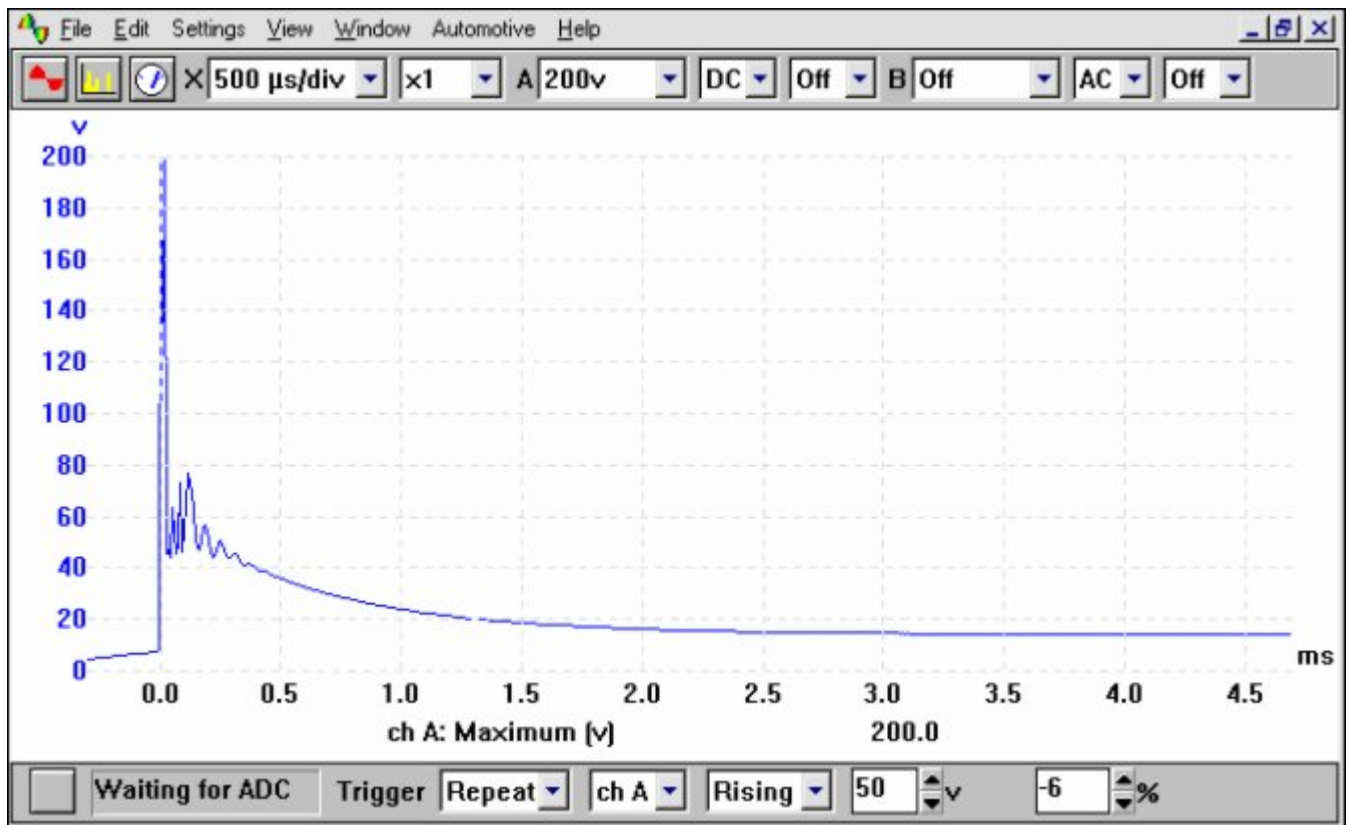

Figure 1.2
In the illustration shown, it can be seen that the horizontal voltage line in the centre of the oscilloscope (C) is at fairly constant voltage of approximately 3 kV. This voltage is referred to as the Sparkline kV. This voltage is the voltage required to maintain the spark flow across the plug's electrode, and is determined primarily by the secondary resistance within the HT circuit. From the 0 ms point on the scope to point D is the spark duration, in this case around 1.0 milliseconds. The waveform is then seen to drop sharply into what is referred to as the 'coil oscillation' (E). The coil oscillation should display a minimum number of peaks (both upper and lower) and at least of 4 - 5 peaks should be seen. A loss of peaks on this oscillation shows that the coil needs substituting. An example of a faulty coil and the subsequent loss of oscillations can be seen in Fig 1.2. The oscillation seen at point (F) is called the 'polarity peak'; this voltage will be of the opposite polarity to the plug firing voltage as this is created when the magnetic flux is initially built, or at the start of the dwell period.